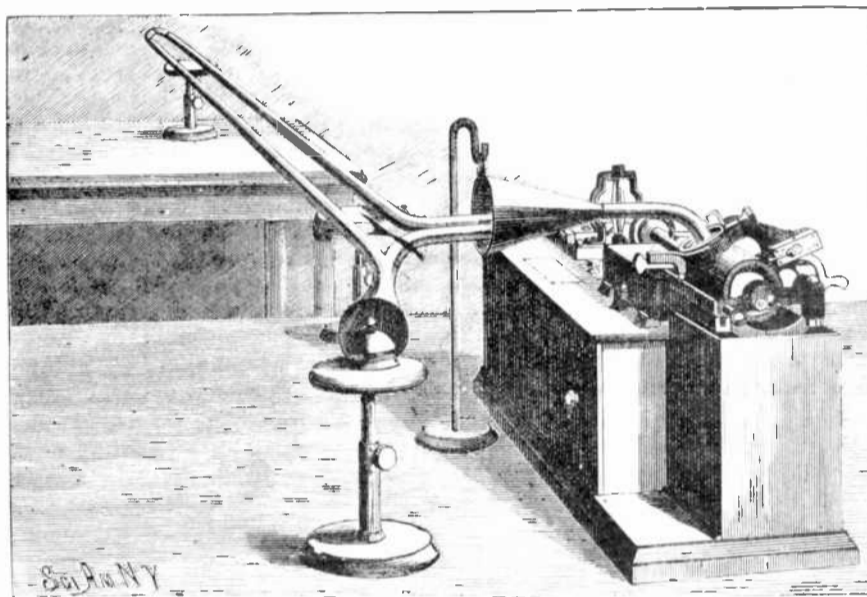

Fig. 1. MEASURING THE VELOCITY OF SOUND BY THE PHONOGRAPH.
wood  $\frac{3}{8}$ " thick and cut a block from same  $1\frac{1}{8}$ " by 2", bore with an extension bit a hole  $1\frac{3}{8}$ " in diameter (as in Fig. 1 B1c). This hole should not go through the block but should be bored to a depth of  $\frac{1}{8}$ "; now with a  $\frac{1}{2}$ " bit bore through the block in the centre of the first hole, another piece the same size must now be cut out of cigar box wood and a  $\frac{3}{8}$ " hole bored in centre of same as (Fig. 1 B2c); this piece is to be bored for four
small screws (B2xxxx) which fastens it to B1. Now from a sheet of mica (the thickness of writing paper) cut a circle  $1\frac{3}{8}$ " diameter (G); to the centre of this glue a wooden post 1 by  $\frac{1}{2}$ " (F F1), cut from some blotting paper two rings (as in G1), lay one of the rings over the hole C in B1, lay the mica on this and place the other ring over the mica, then screw the block (B2) over this and you have the diaphragm completed. From a piece of hard wood cut a block  $1\frac{1}{8}$ " by  $1\frac{1}{4}$ " by  $\frac{7}{8}$ " (D), in the end of this bore a  $\frac{1}{2}$ " hole to the depth of  $1\frac{1}{8}$ ", then bore a  $\frac{3}{8}$ " hole in the side of the block to meet this and fasten to diaphragm (Fig. 1 as E).